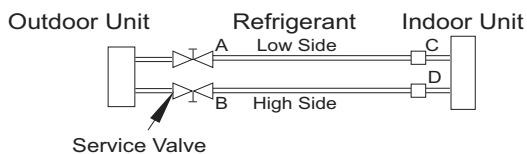

Fig. 16 — Service Valve
1. Completely tighten flare nuts A, B, C, D. Connect the manifold gage charge hose to a charge port of the low side service valve (see Fig. 16).